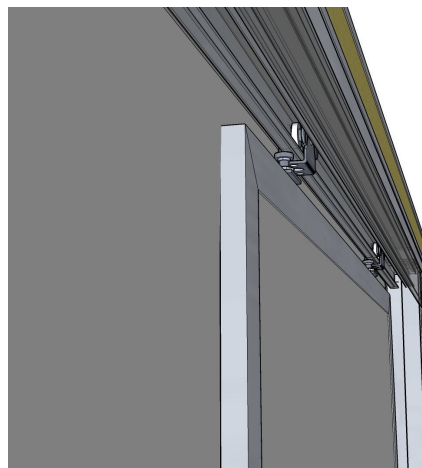
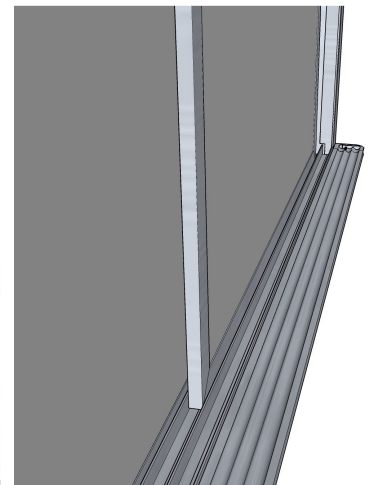

Figure 8a.
Figure 8b.
8. Install back **Sliding Panel** first by lifting the panel up into the housing as shown in Figure 8a, then dropping the panel down into the back track as in Figure 8b. Attach the **Rollers** by tightening the hanger nut at each Roller position with a crescent wrench. (Do not over-tighten) Repeat for the front **Sliding Panel**.